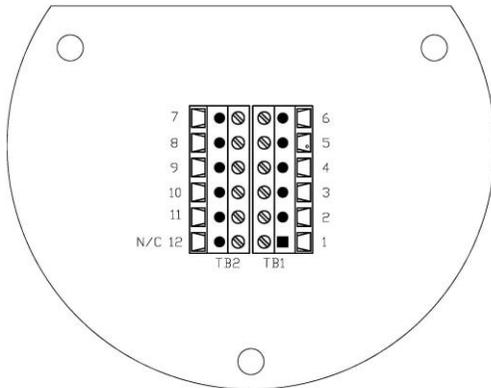

Figure 3. Remote Junction Box
- 3.) If the unit is a remote, check the remote terminal wiring per Figure 3 below.
- If the unit is a remote, check the remote terminal wiring per Figure 3 in FAQ 4.